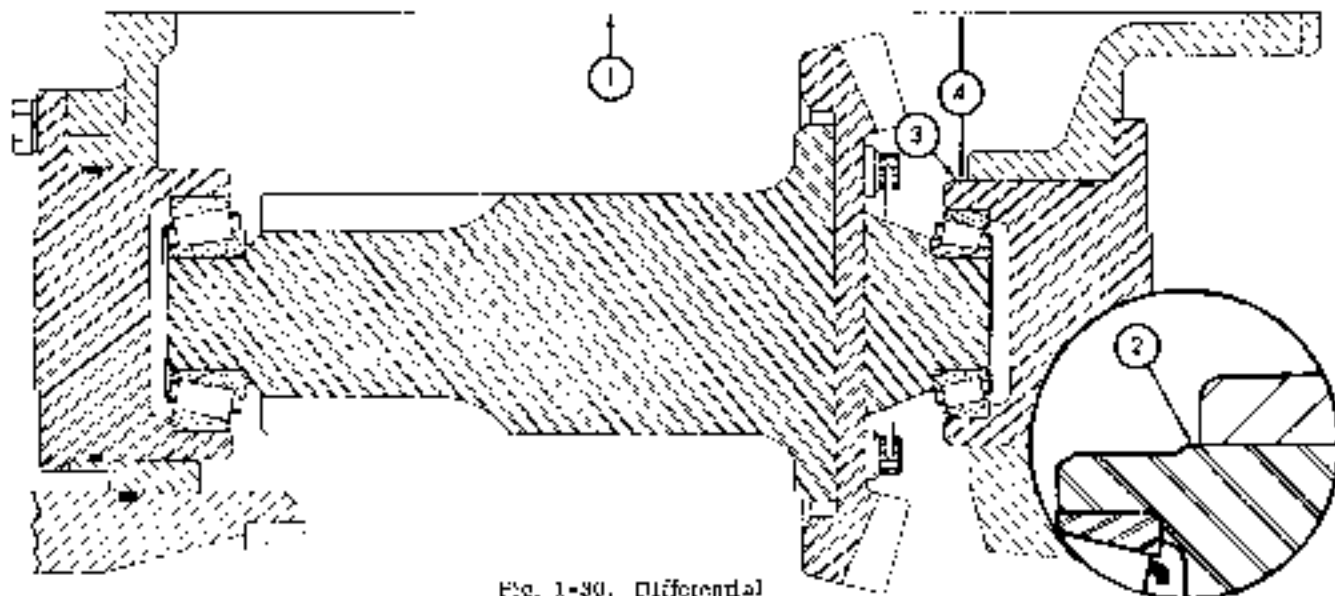

Fig. 1-30. Differential
ished surface of the transmission case. Record this dimension. (Fig. 1-30.)
i. Measure from finished surface of differential case to finished surface of cap (20). Record this dimension. (Fig. 1-30.)
Be sure the contact point of the gage is on the portion of the cap shown in figure 1-30.